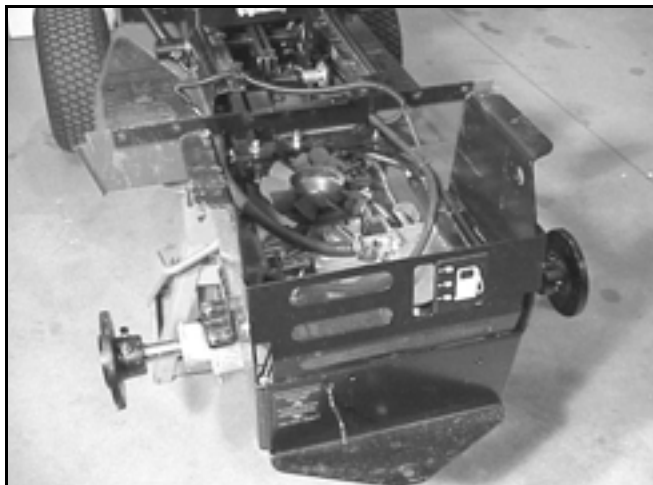

Figure 117
2. Raise the rear of the tractor and remove the right and left rear tires. Support the rear frame, just in front of the transaxle. Remove the center access plate, fender, seat, and gas tank. Refer to the "Chassis" section on page 2 - 15 and page 2 - 16. Remove the center plate between the seat and the hood stand (Figure 117).